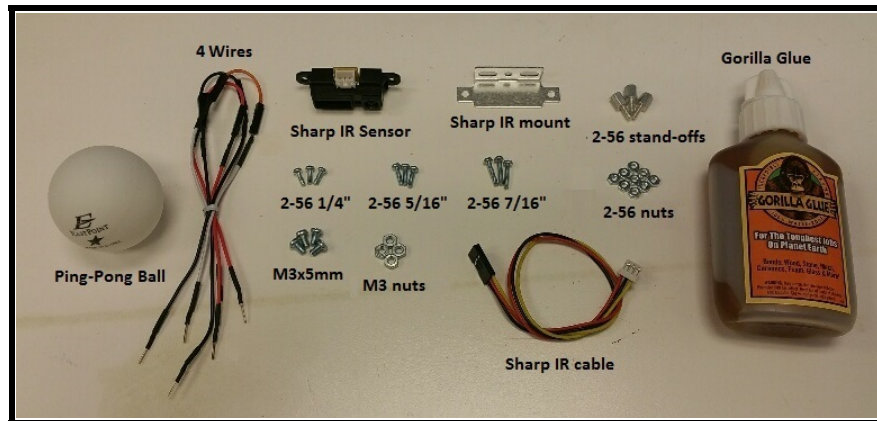
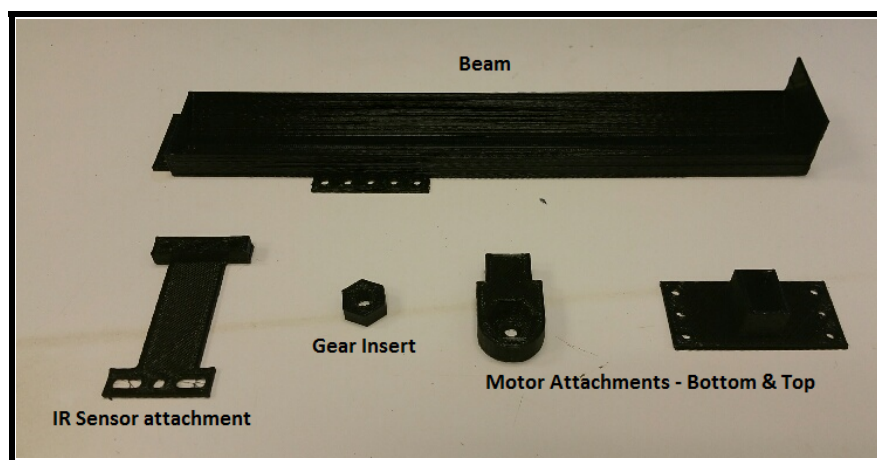

Figure 2.1: Additional Hardware
Figure 2.2: 3-D Printed Hardware
All of the materials used in the *Sampling and Data Acquisition* experiment will be used in this experiment, except for the 3-D printed load. Additionally, the hardware listed below, and shown in Figure 2.1 and Figure 2.2 will be used.
8. Select the Optimal State Feedback Control (Ball on Beam) link to download the files. Open and 3-D print all of the ".STL" files. *Note:* Before printing each part, be sure to orient them correctly in the 3-D printing software. You should not need any support material. The correct orientations are shown in Figure 2.2, but you may have to orient the beam diagonally to make it fit on the print bed.